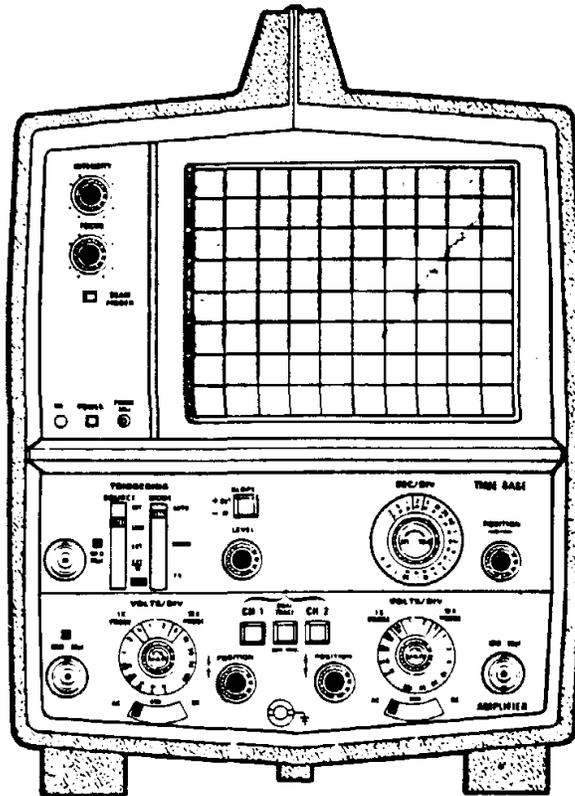
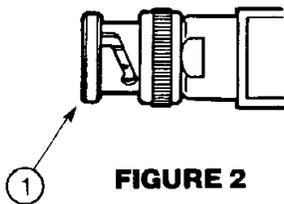
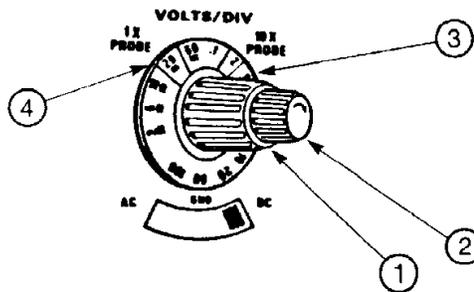

FIGURE 1
FIGURE 2
FIGURE 1A
9. Turn the oscilloscope power on. (Figure 1, #1).
10. Plug the BNC connector probe (Figure 2, #1) into channel 2 of the Oscilloscope. (Figure 1, #2).
11. Put the mode switch on "AUTO". (Figure 1, #3).
12. Set the display signal source for the input channel being used, in this case channel 2. (Figure 1, #4).
13. Set the Voltage/Division dial (Figure 1, #5) to .2 volts by turning the back section of the dial (Figure 1A, #1).
CAUTION: Do not turn the front section of the dial (Figure 1A, #2) as this will cause the scope to go out of calibration.
NOTE: Use the 10X positions (Figure 1A, #3) on the dial if the connector probe is 10X (10 to 1 attenuation). Use the 1X position (Figure 1A, #4) if the connector probe is 1X (no attenuation).